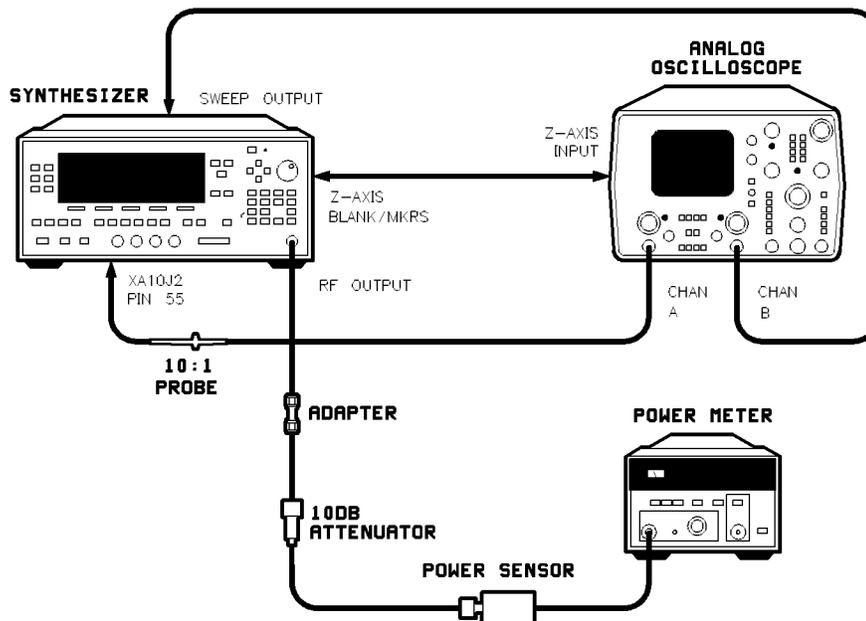
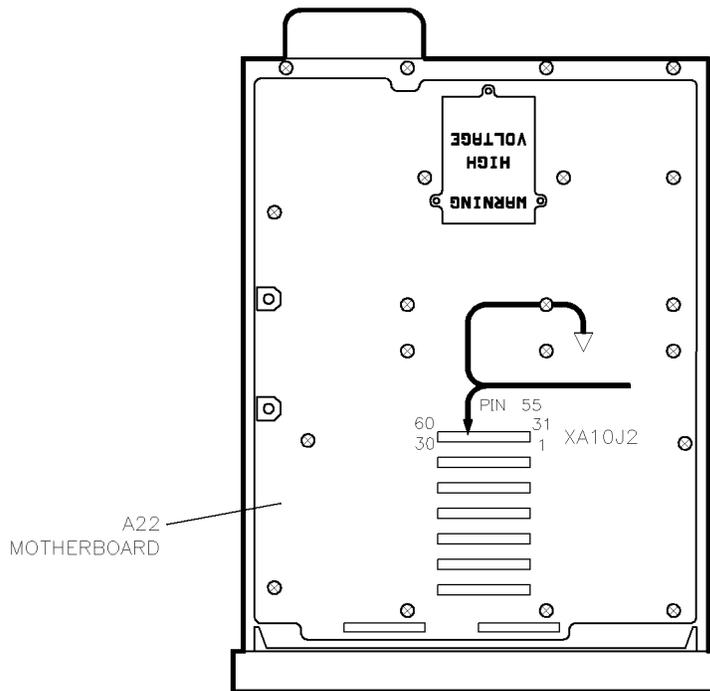

Figure 3-18. Amplifier/Filter Adjustments Setup
Figure 3-19. XA10J2 Location
1. Connect the equipment as shown in Figure 3-18 using an analog oscilloscope with A versus B sweep capability. Do not connect the power meter yet. (See Figure 3-19 for location detail of XA10J2 pin 55 on the motherboard.) Power on all the instruments and let them warm up for at least one hour.